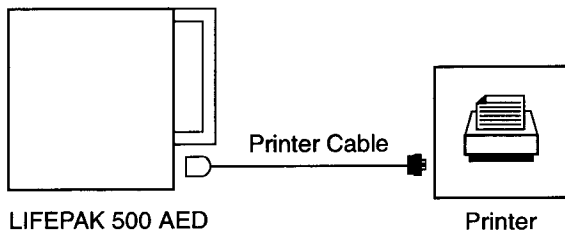

Figure 4-6 Connecting the AED to a printer
- 4 Connect the equipment as shown in Figure 4-6.